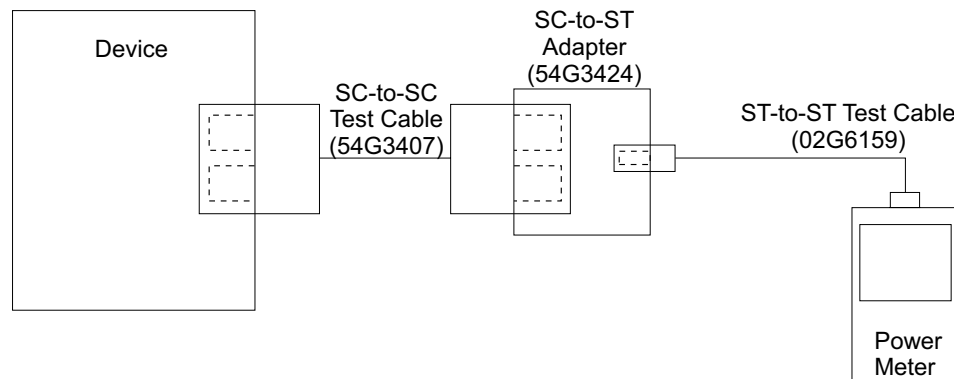

Figure 150. Measuring Fibre Channel Optical Transmit Power (S008840I)
3. Connect one end of a SC-to-SC test cable to the SC-to-ST adapter; then connect the other end to the 2105 Model Exx/Fxx Fibre Channel host card (See Figure 150).